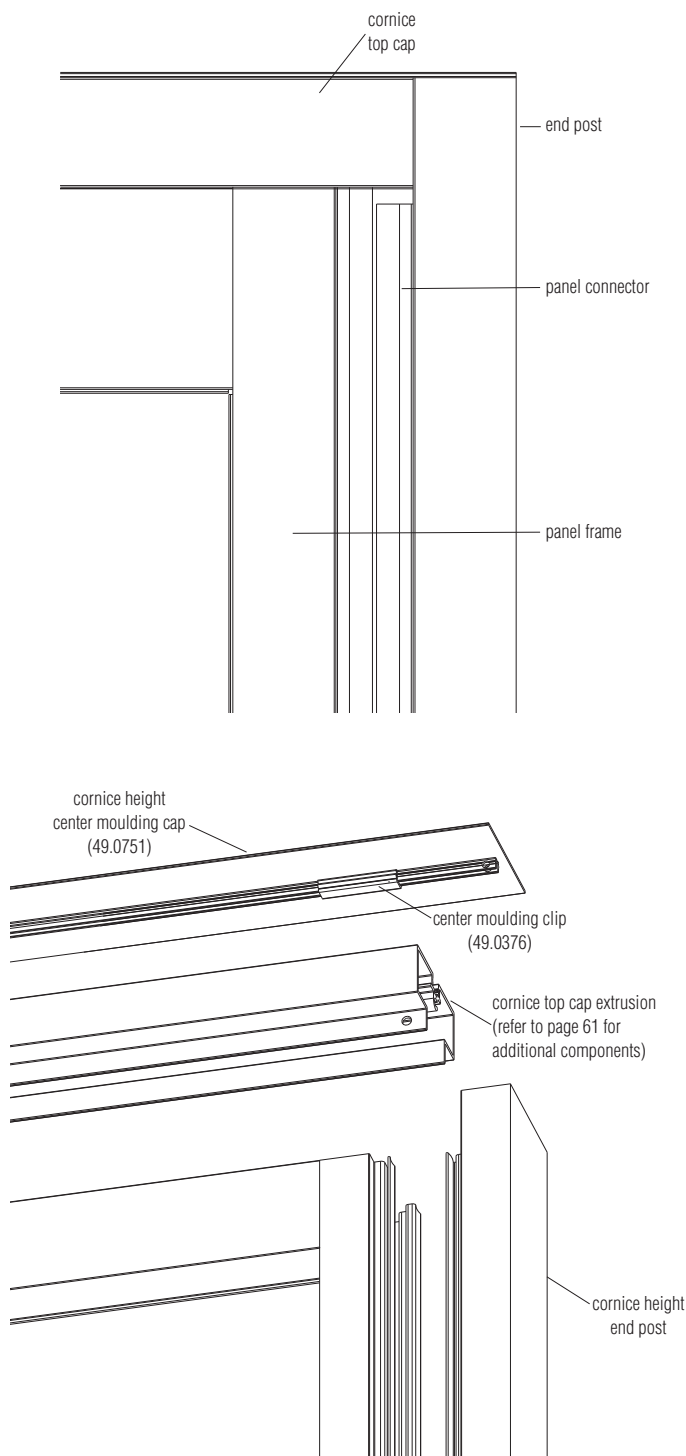

Figure 1
1. Measure building wall height from floor to ceiling to determine cornice end-of-run post size. Once measurement is taken, cut end-of-run post to size (Figure 1).